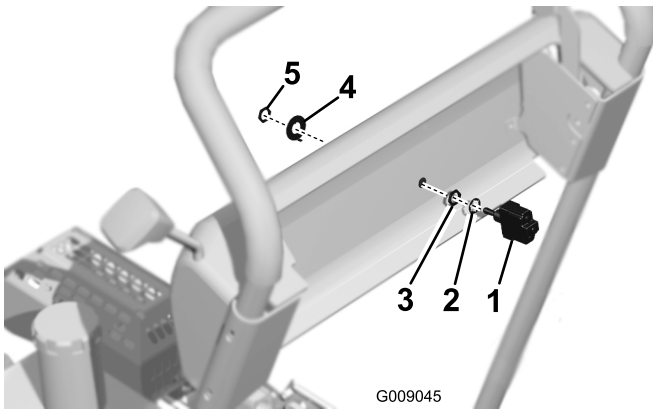

Figure 3
- B. Thread a jam nut onto the switch threads. Also, insert a wave washer onto the switch threads (Figure 3).
- C. From the back of the console, insert the switch into the larger drilled hole (Figure 3).
- D. Slide the new tabbed washer w/decal onto the switch while inserting the tab into the small drilled hole (Figure 3).
- E. Secure the switch and components to the console with the wave washer and (2) jam nuts (Figure 3).